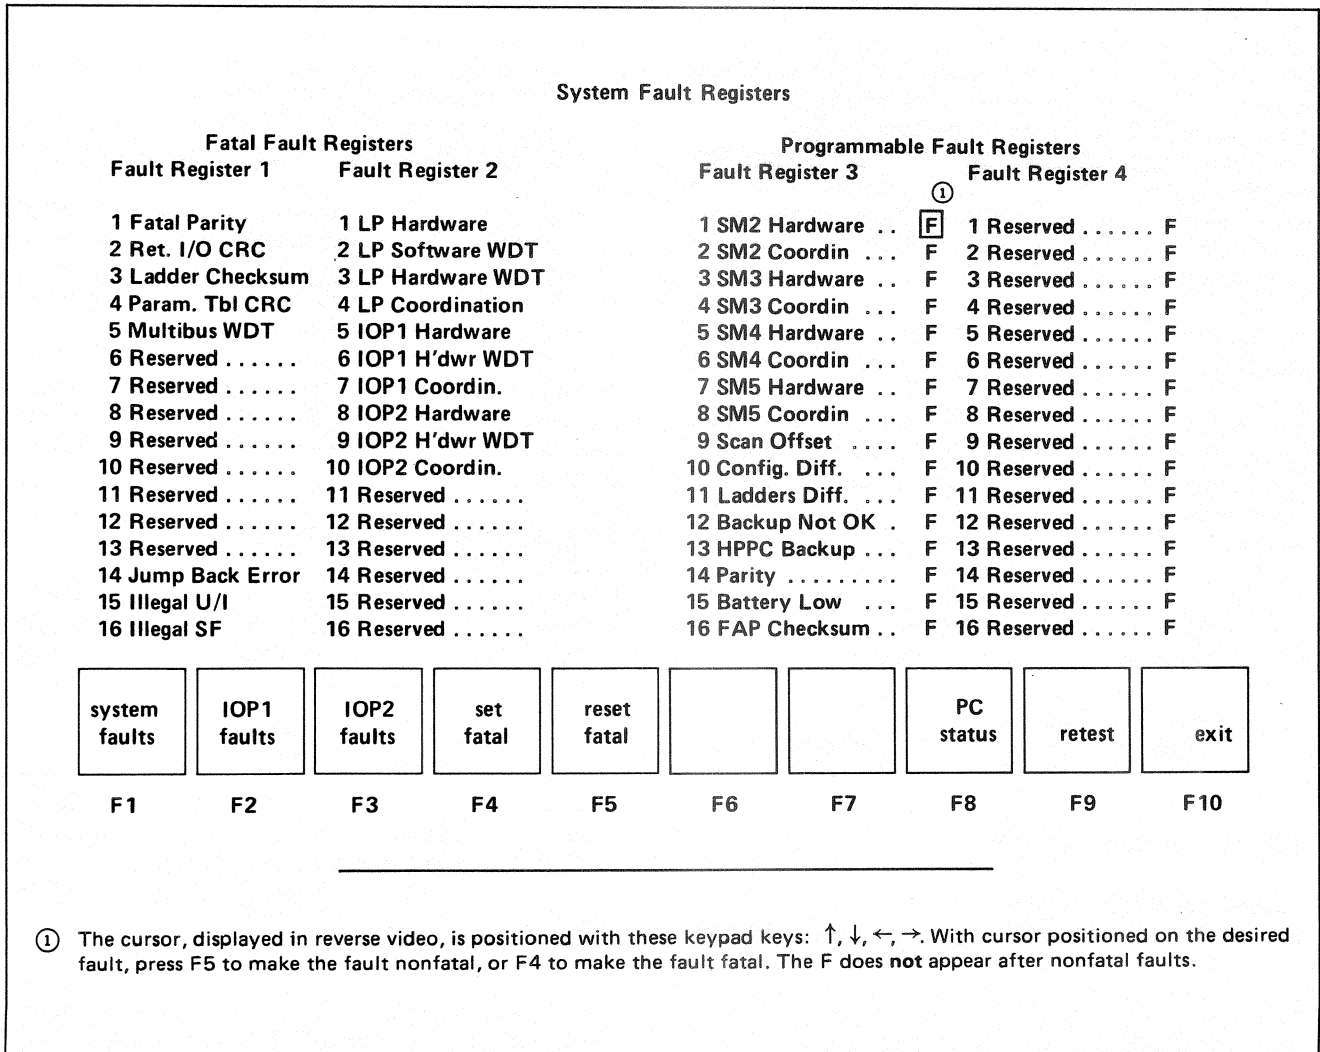

Figure 7-4. Primary Fault Table Screen
The fault table function of the Executive Function mode provides a display of fatal and nonfatal faults. Press the F4 key when the primary screen of the Executive Function mode is displayed to enter the fault table function. Once entered, the screen shown in Figure 7-4
registers 1 and 2 and programmable fault registers 3 and 4. This is the primary fault screen shown in Figure 7-4.
**F4, Set Fatal; F5, Reset Fatal.** Allow setting or resetting of the programmable fault registers. The programmable fault registers are register numbers 3, 4, 5, and 8. Note 1 of Figure 7-4 shows the F4 and F5 keys' usage. The F displayed to the right of programmable faults indicates that these are programmed as fatal. When they are set nonfatal, the letter F does not appear to the right of the fault.